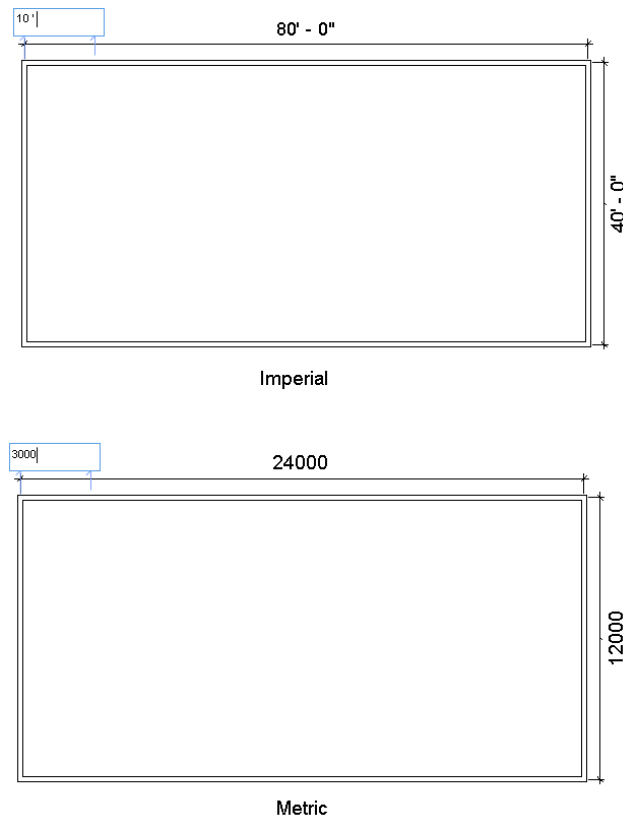

Figure 3-65 Specifying the distance for starting the first interior wall segment
1. Move the cursor near the top left end of the wall and then start moving the cursor horizontally toward the right. Enter **10'0"** for Imperial or **3000 mm** for Metric when the temporary dimensions and the intersection object snap appears, as shown in Figure 3-65. Now, press ENTER; the starting point of the first interior wall is specified.